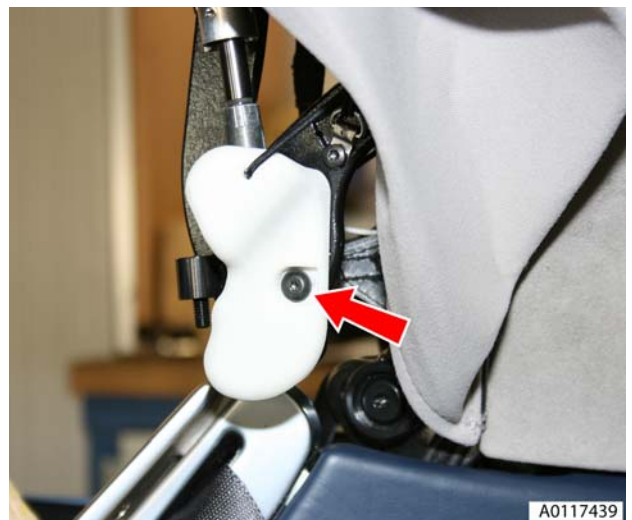

Figure 2
4. Remove lower cover (screw x1) (see Figure 2).